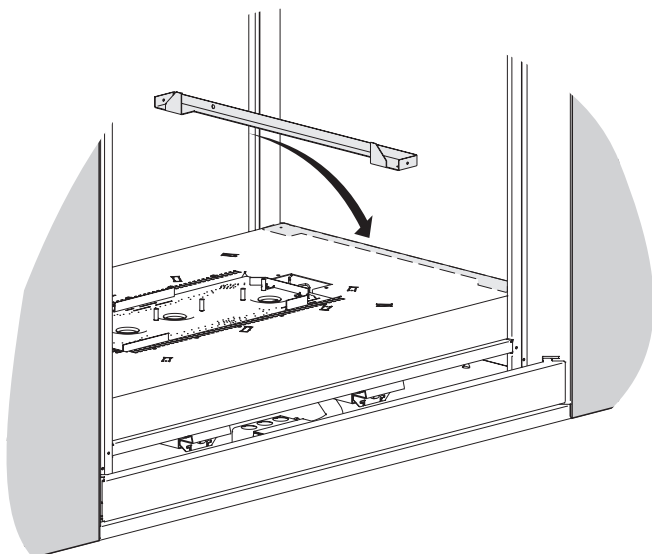

Figure 61
- The fiber or porcelain liners sit in front (NOT behind) of the brick brackets as shown in **Figures 61 and 62**.
3. Set the brick bracket against the firebox wall as shown in **Figure 61**.